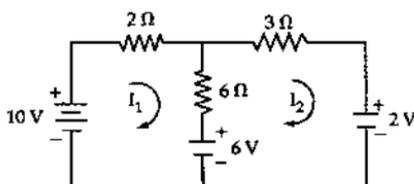

Fig. 1.
- (a) Using loop current method find the current I_1 and I_2 . Shown in Fig. 1.